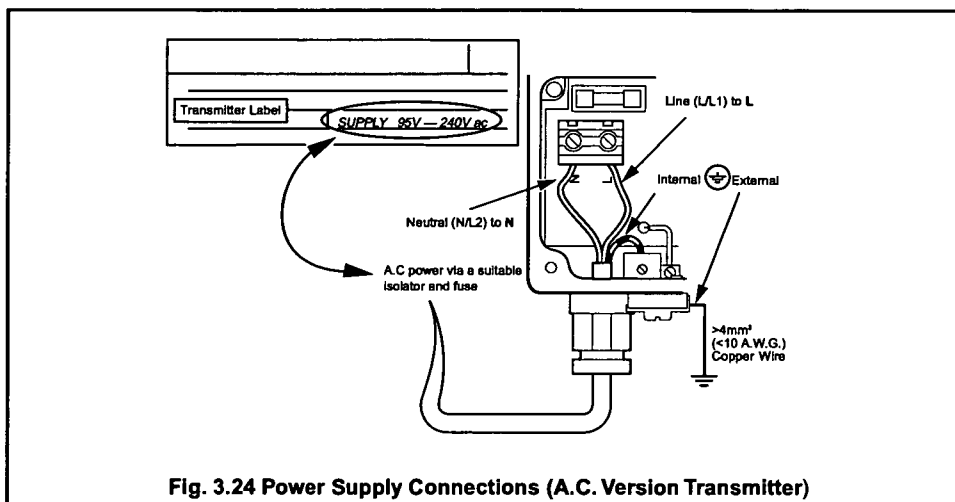

Fig. 3.24 Power Supply Connections (A.C. Version Transmitter)
3.4.7 Power Supply Connections – Fig. 3.24 and 3.25